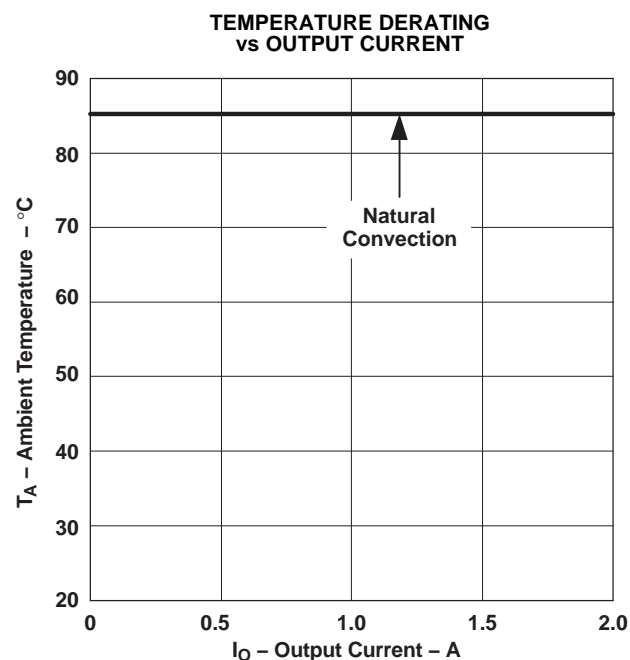

Figure 8.
- (4) The temperature derating curves represent operating conditions at which internal components are at or below manufacturer's maximum rated operating temperature. Derating limits apply to modules soldered directly to a 100-mm  $\times$  100-mm, double-sided PCB with 2 oz. copper. For surface mount packages, multiple vias (plated through holes) are required to add thermal paths around the power pins. Please refer to the mechanical specification for more information. Applies to Figure 8.